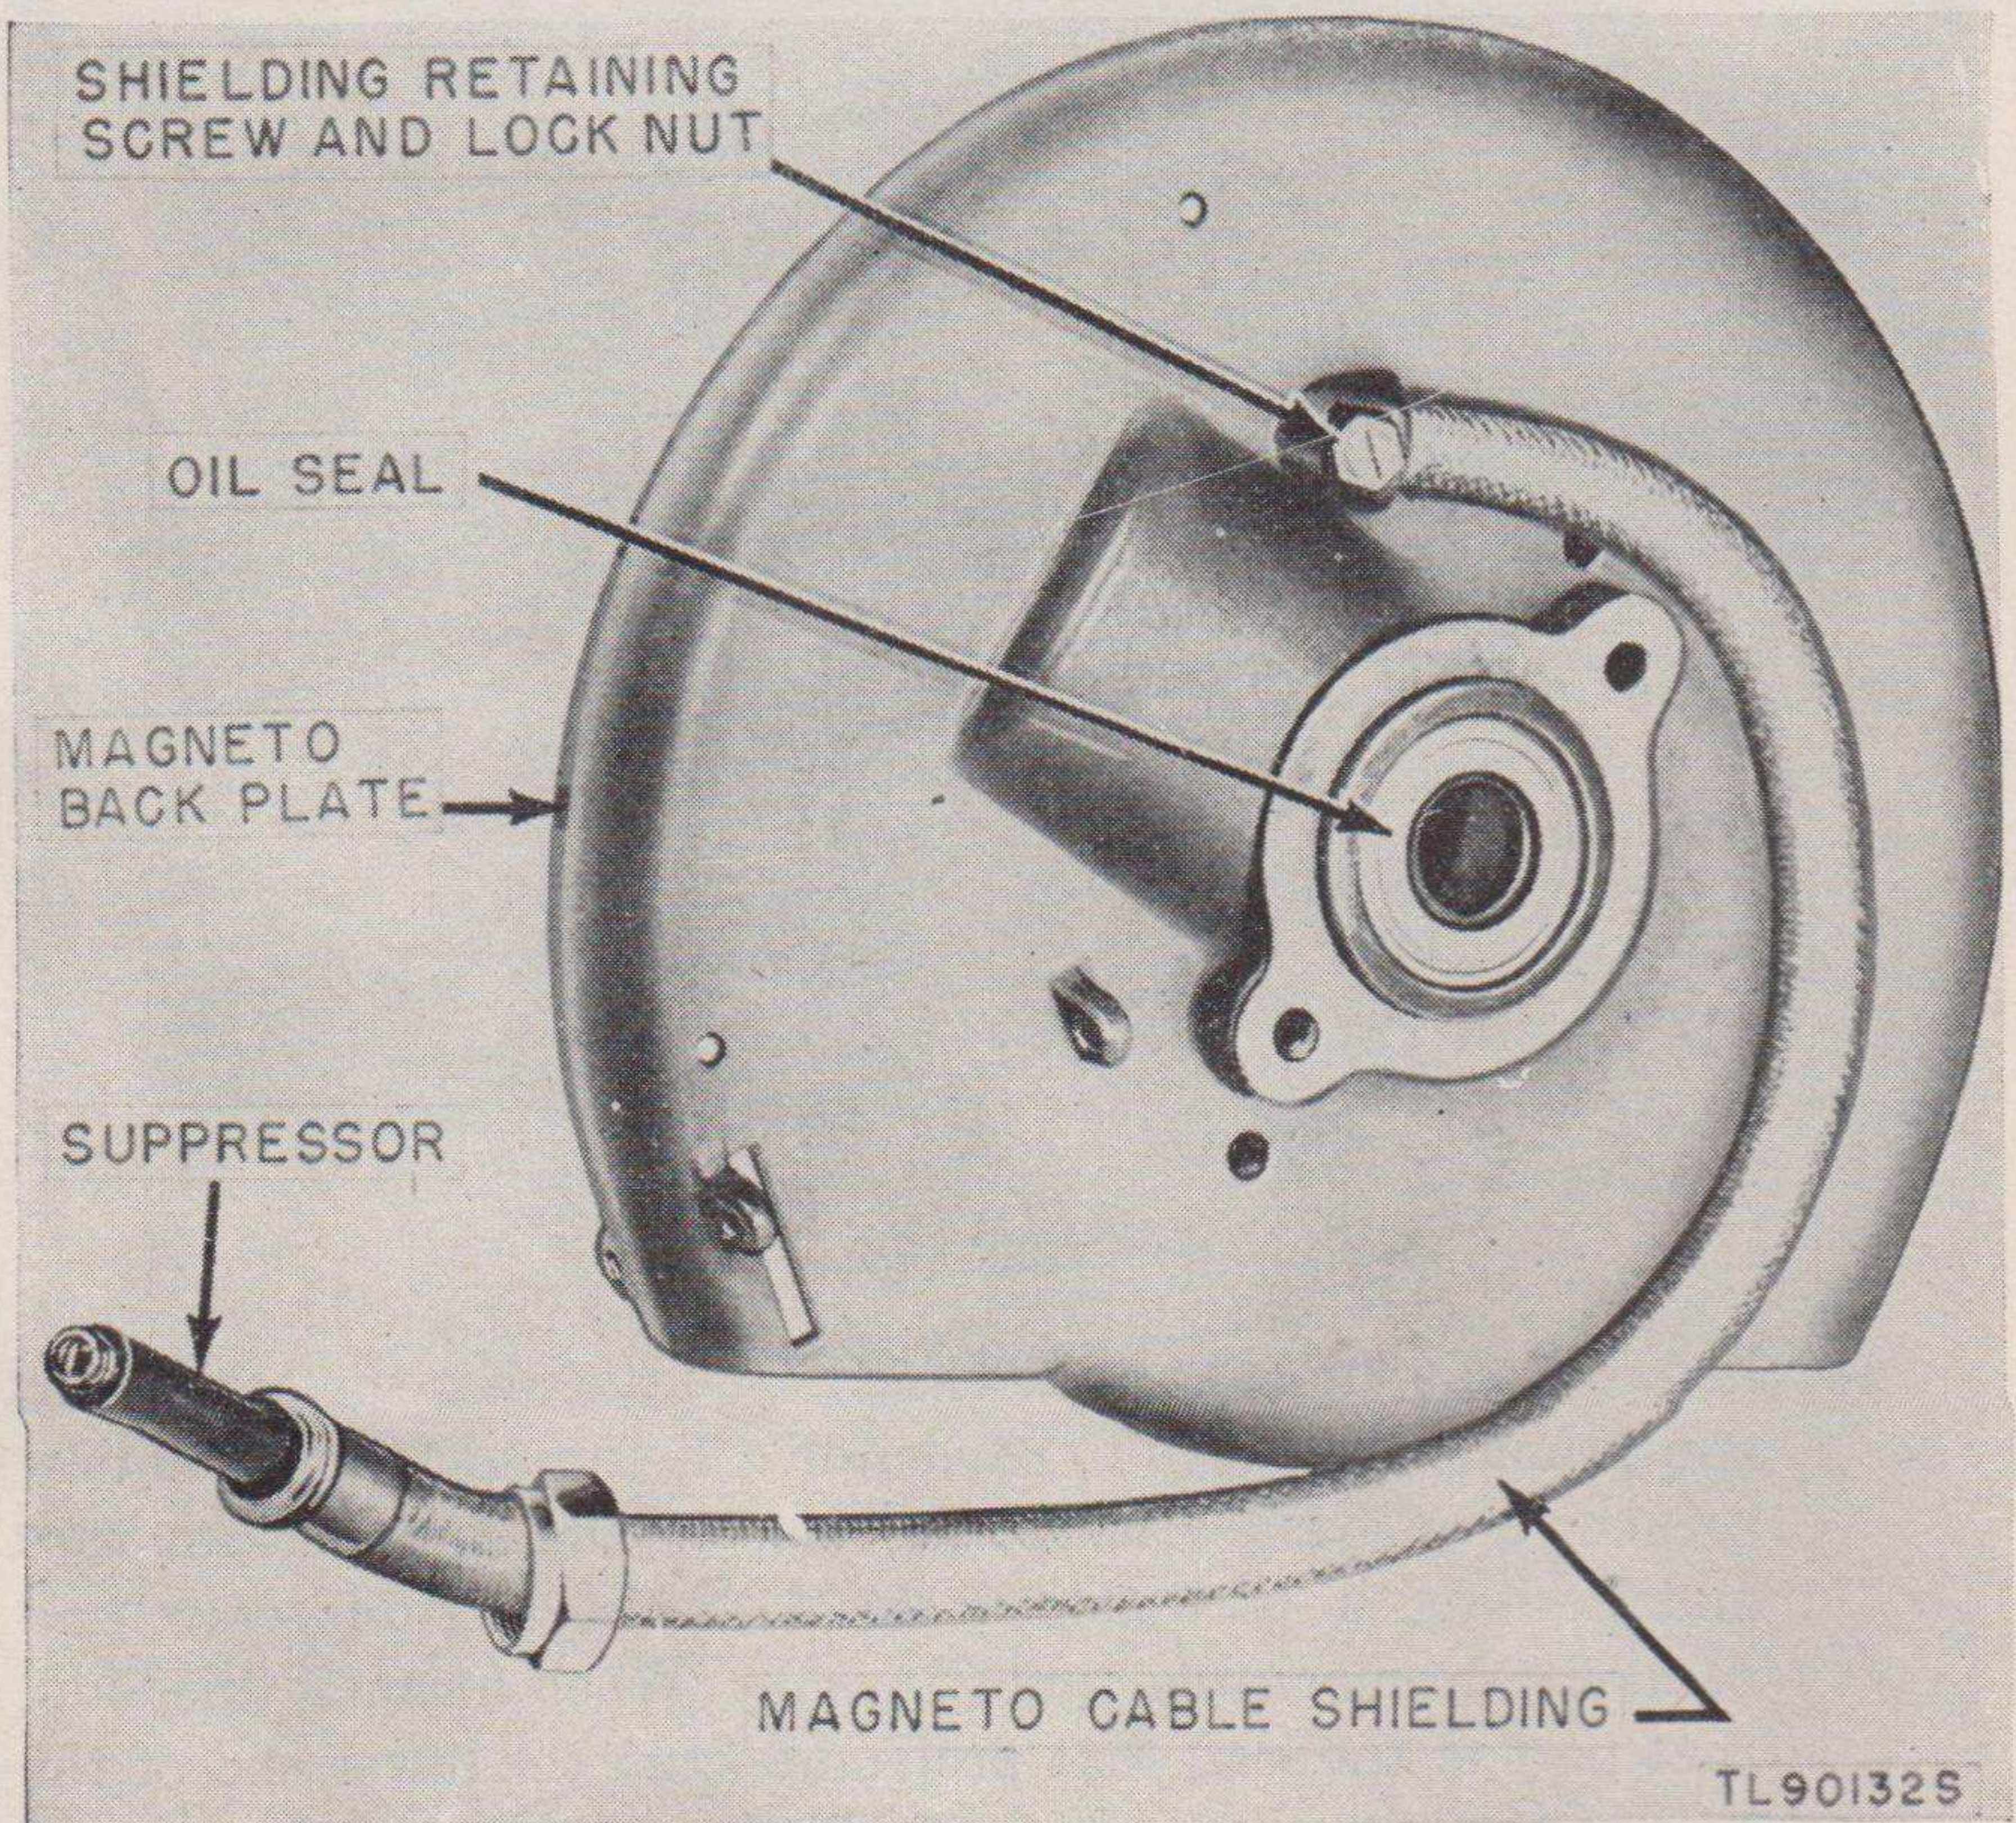

Figure 34. Magneto back plate and cable.
- (1) Remove the spark plug shield, spark plug, magneto-flywheel housing, and flywheel (par. 63b(2) ). Remove the magneto cam brush.
- (2) Remove the two screws and lockwashers that attach the stator plate to back plate (fig. 34) and remove the stator plate.
- (3) Remove the two screws and lockwashers that hold the back plate to the crankcase (fig. 34). Remove the back plate and back plate gasket from the crankcase. Ignition (spark plug) cable and shielding will come off with the back plate.
- (1) Unscrew nut that attaches magneto cable shielding to spark plug shield cap and withdraw cable and shielding from cap. Unscrew suppressor.
- (2) Remove the magneto-flywheel housing and flywheel.
- (3) Unfasten the wire end of the magneto cable from around bracket in coil. Loosen shielding-retaining locknut on the rear of the magneto back plate (fig. 34) and withdraw the cable and shielding. With the suppressor removed, the magneto cable can be removed from the shielding.
- (4) Strip the insulation back about  $\frac{1}{2}$  inch from the end of the replacement cable and twist the wire strands together. Install replacement cable inside shielding. Screw suppressor on end of shielding.
- (5) Insert the shielding through the opening in the magneto back plate until the collar is flush with the shoulder. Tighten the screw and locknut to hold the shielding to the back plate. Insert the wire end of the cable in the bracket on the coil, then wrap it around the bracket securely.
- (6) Bring cable and shield assembly forward between the cylinder and magneto back plate. Attach the assembly to the spark plug shield cap by screwing nut (on shielding) up tight against cap. Install cap on spark plug shield body.
- (7) Install flywheel and flywheel housing.